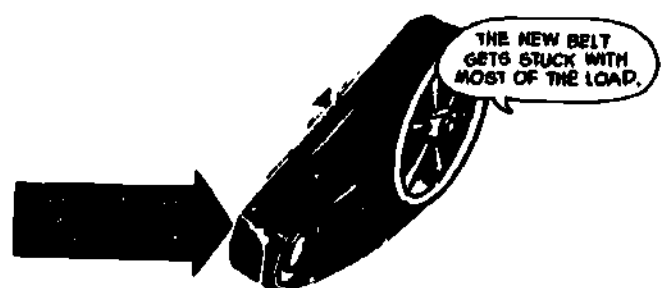

Fig 2-58. Belts should be replaced in sets.
h. **Drive belts.** Drive belts must be inspected for excessive wear, proper tension, and alignment. An operator can normally visually inspect and test the tension as shown in figure 2-52 and determine if any belts are going to interfere with the operation of the vehicle. This check is an operational check, not a measured mechanical adjustment. Some vehicles are equipped with more than one belt. When replacing belts, you should replace them in sets. This procedure prevents the new belt from carrying all the load (fig 2-58).